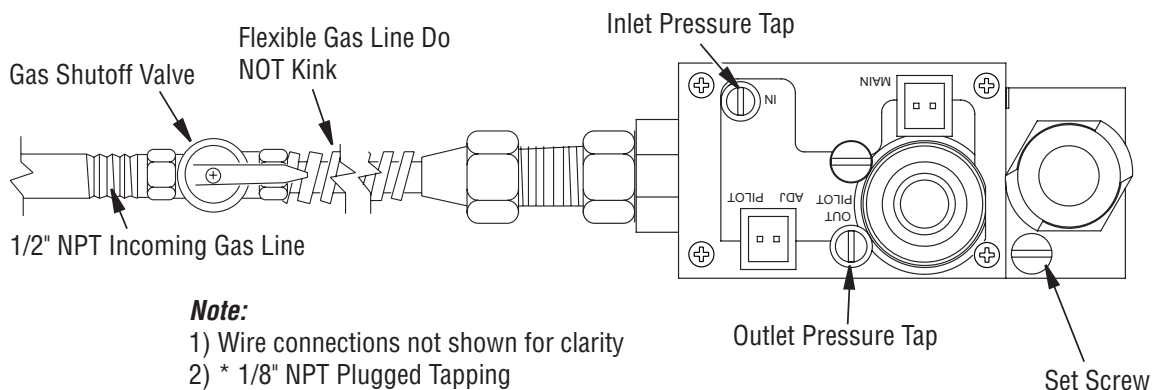

Figure 12 - Connecting Incoming Gas Line to Flex Gas Line
2. Attach flexible gas line from gas supply to control valve (see Figure 12).